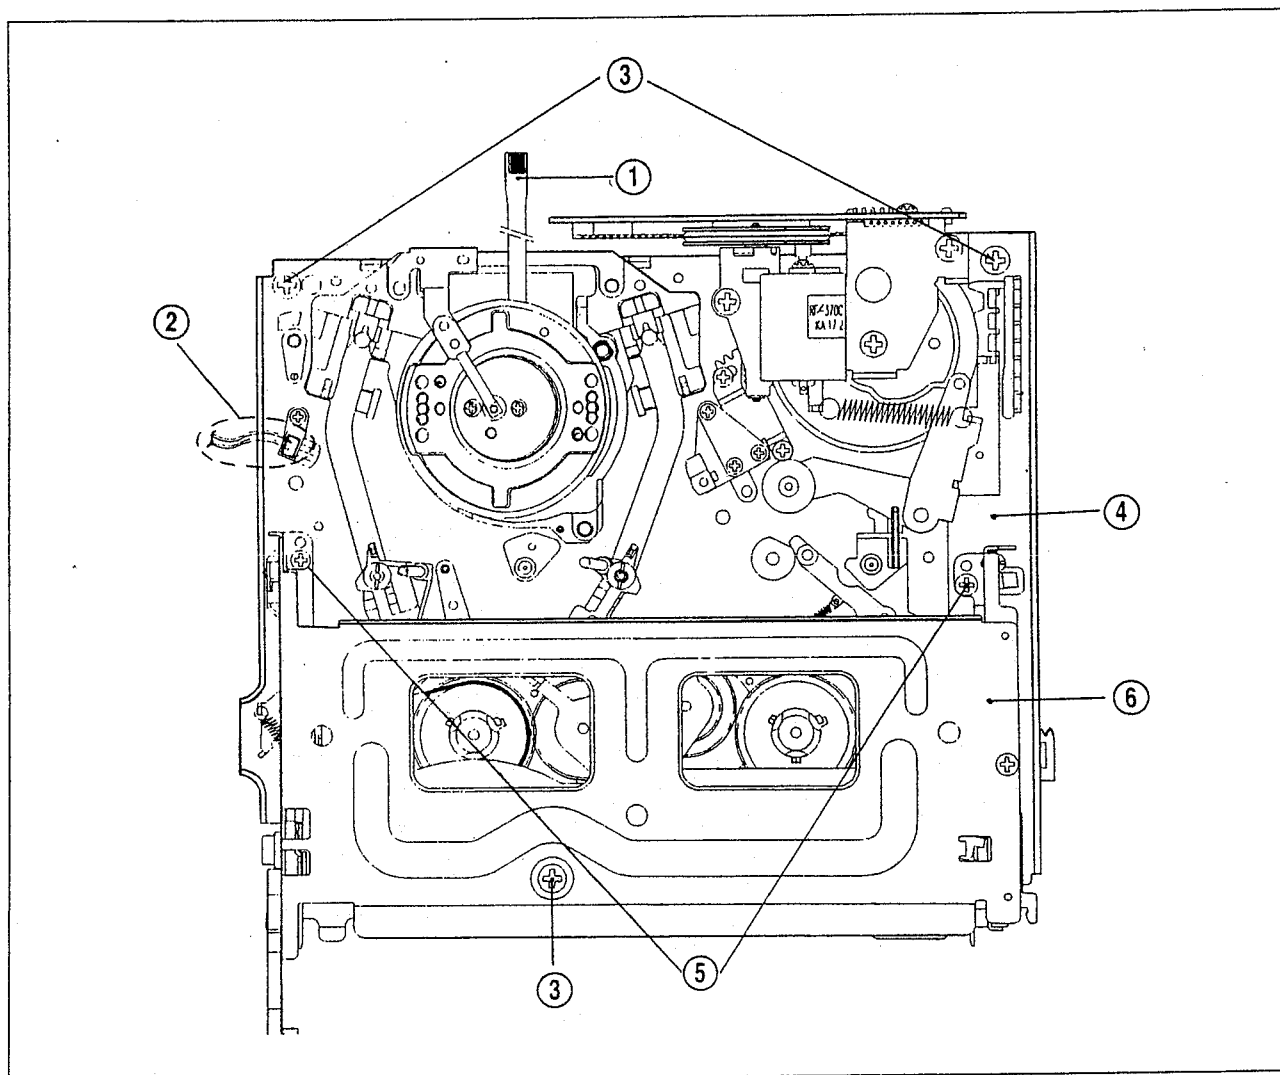

Fig. 3-1
1. DISASSEMBLY OF THE DECK TOTAL ASS'Y AND F/L ASS'Y (See Fig. 3-1)